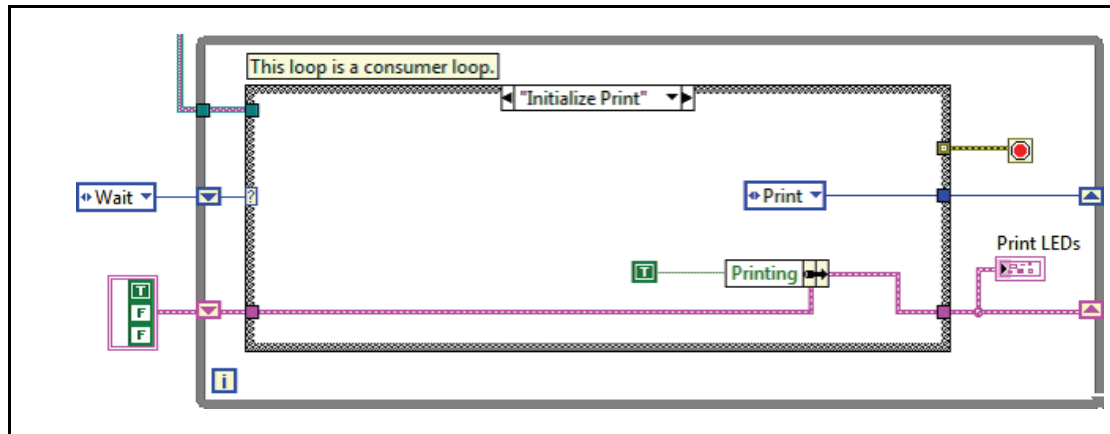

Figure 7. Consumer Loop—Initialize Print Case
4. Refer to Figure 7 to create the Initialize Print state.